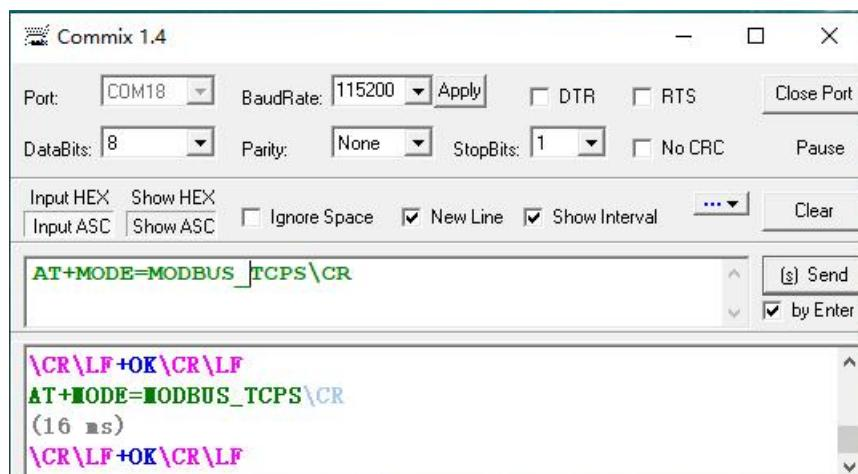

Figure 6-22 AT instruction for setting MODBUS \_ TCPS mode
- 1) Set the module to MODBUS \_ TCPS mode with port set to 5000. Both AT commands and web pages are available Take AT command setting as an example, as shown in Figure 6-22. For specific AT command mode entry operation, please refer to. AT Instruction Set Section.
- 2) As shown in Figure 6-22, the receipt of "+ OK" indicates that the module has finished setting the MODBUS \_ TCPS mode. Then exit the at finger Command mode, the program automatically returns to passthrough mode.